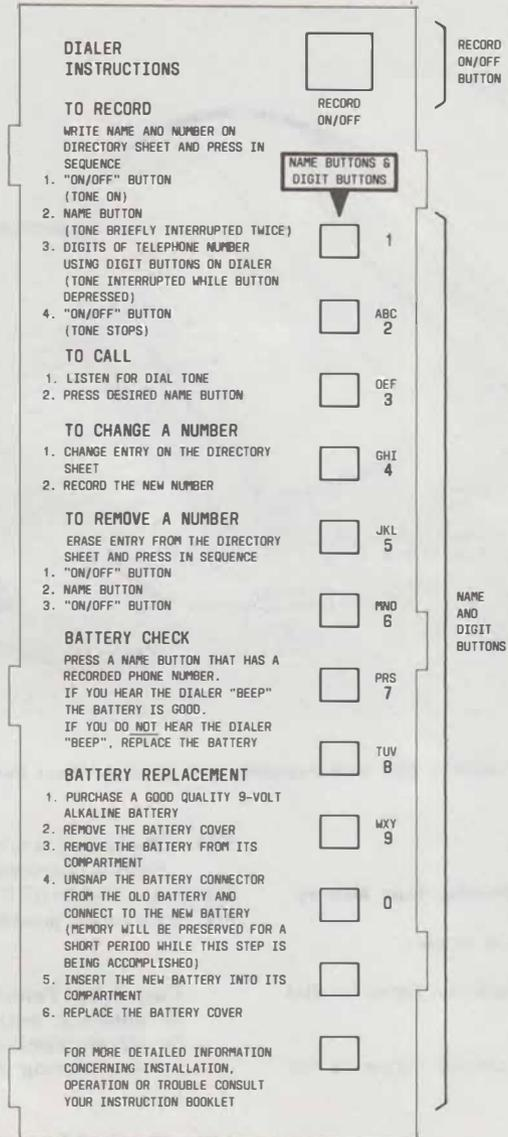

Fig. 5 — Instruction Label
5.02 The battery is to be replaced by the customer. Refer to instruction label (Fig. 5) or Customer Instruction Booklet (CIB) for detailed battery testing and replacement procedures.